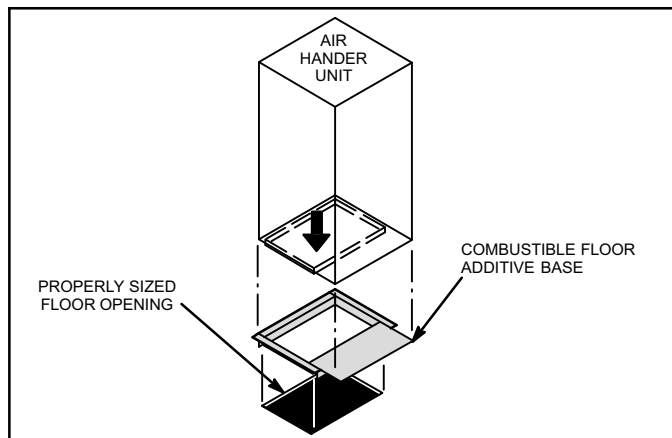

Figure 9. Downflow Combustible Flooring Base
- For downflow installation on combustible flooring, an additive base must be used as illustrated in figure 9 on page 9. See *CBX32MV Engineering Handbook* for downflow combustible flooring base kits available for this air handler.